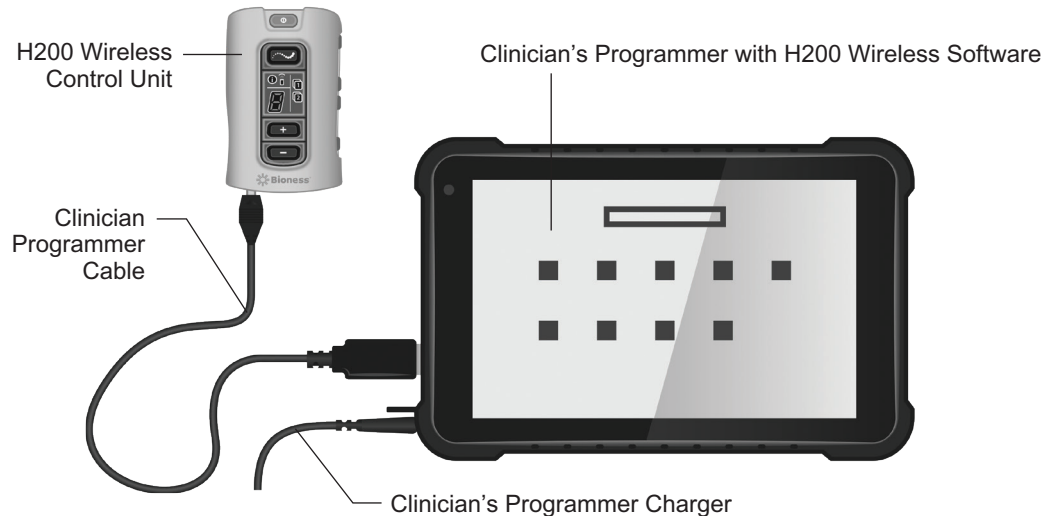

Figure 7-1: Clinician's Programmer Charging Configuration
1. Connect the Clinician's Programmer Charger to the Clinician Programmer. See Figure 7-1.